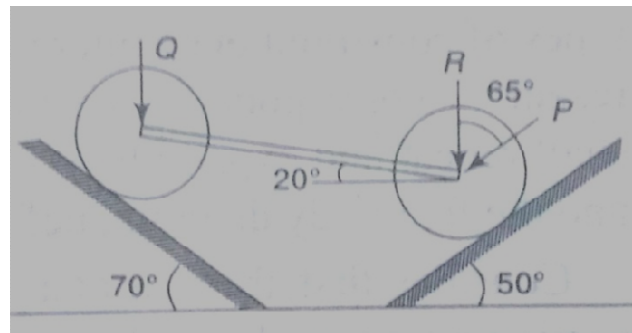

Figure 1.19
26. Two cylinders of weights Q and R are interconnected by a bar of negligible weight hinged to each cylinder at its geometric center by ideal pins. Determine the magnitude of P applied at the center of cylinder R to keep the cylinders in equilibrium in the position shown in Figure 1.19. The following numerical data are given: $Q = 2000$ N and $R = 1000$ N.